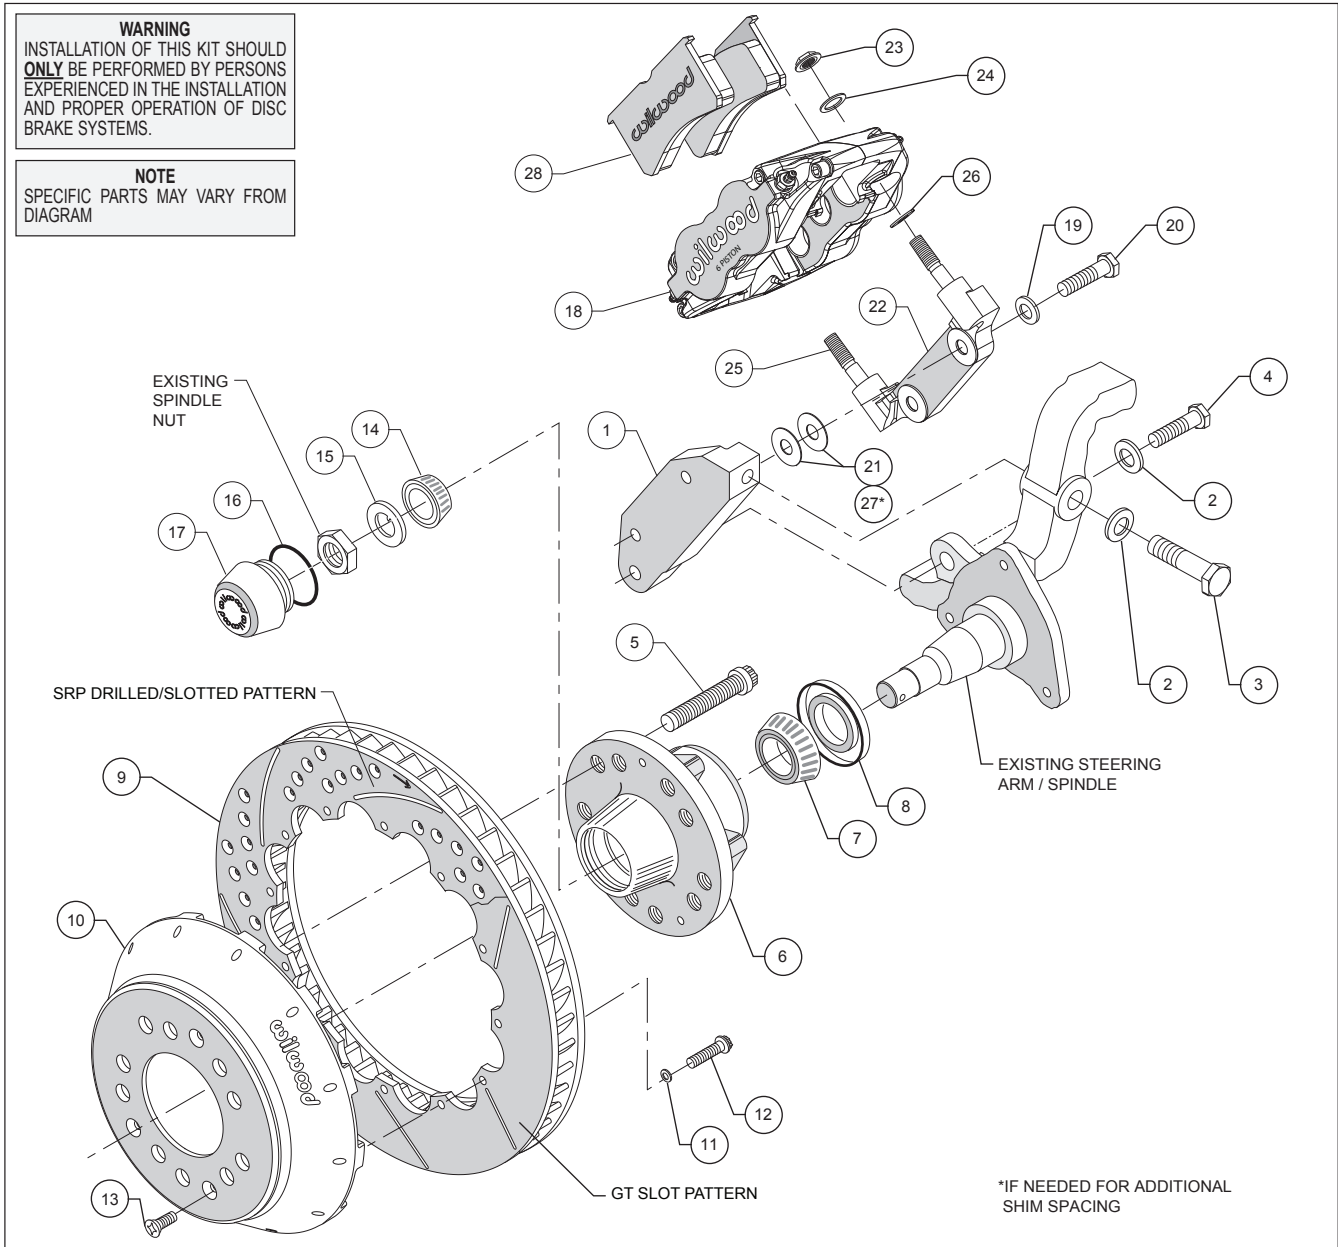

Figure 1. Typical Installation Configuration
•Mount the radial mount caliper bracket (22) to the first "flat" caliper mounting bracket (1) from the far side using washers (19) and bolts (20), as shown in Figure 1. Initially place two .030 thick shims (21) between the two brackets. Temporarily tighten the bolts.
•**NOTE:** This kit contains distinct right and left hand calipers that must be mounted in a specific direction, as described below. Lubricate the caliper mounting studs (25) with lightweight oil. Initially place one .035" thick shim (26) on each stud as shown in Figure 1. Mount the caliper (18) onto the bracket (1) using lock nuts (23) and washers (24), Figure 1. Ensure that the caliper is mounted so that the largest pistons are at the rotor exit end of the caliper, in relation to the direction of rotor rotation. Temporarily tighten the lock nuts and view the rotor through the top opening of the caliper. The rotor should be centered in the caliper. If not, adjust by adding or subtracting .030" shims (21), or add .015" thick shims (27), as necessary between the radial mount bracket (22) and the flat bracket (1). Always use the same amount of shims on each of the two mounting bolts. Once the caliper alignment is correct, remove the bracket mounting bolts (20) one at a time, apply red *Loctite*[®] 271 to the threads, and torque to 42 ft-lb.